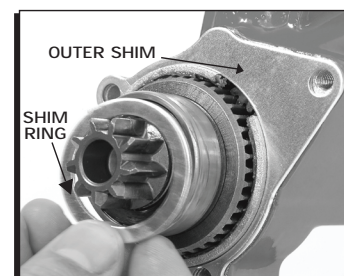

Figure 3 Installing the Pinion Shim Spacers.
- **If the clearance exceeds 3/16"**, you will need to remove the pre-installed shim kit by removing the mounting block (Figure 3). Remove the small shim ring in the bearing bore and the outer shim on the support housing. Reinstall the mounting block. This will move the pinion gear closer to the ring gear approximately 0.060".